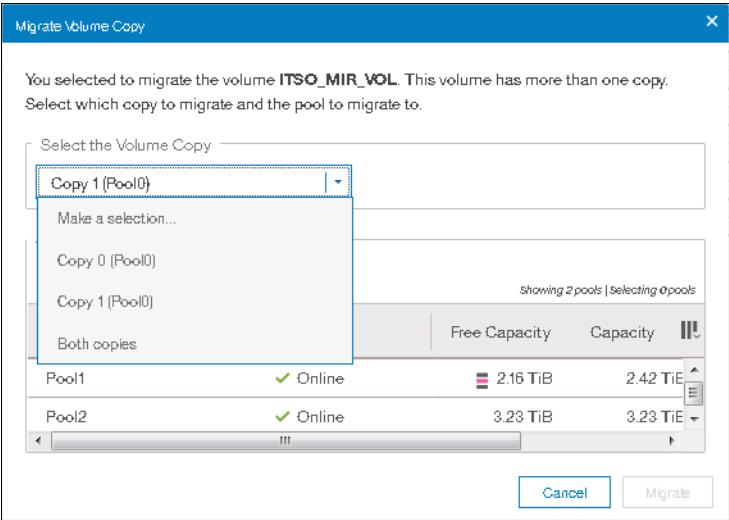

Figure 6-53 Migrate Volume Copy window: Select copy
3. The Migrate Volume Copy window opens. If your volume consists of more than one copy, select the copy (from the menu shown in Figure 6-53) that you want to migrate to another storage pool. If the selected volume consists of one copy, this selection menu is not available.